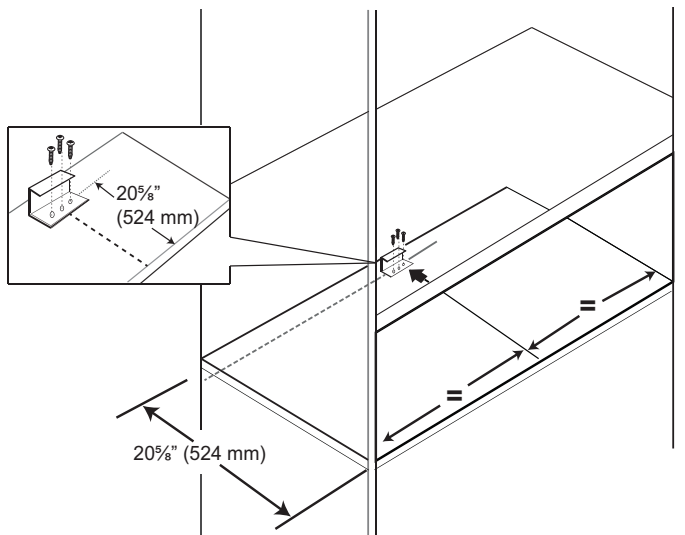

Figure 5: Anti-tip Bracket Location
3. Position the anti-tip bracket on the floor of cabinet opening $20\frac{5}{8}$ " (524 mm) from the cabinet edge and spaced equally centered for model type, as shown in Figure 5.
4. Secure with three (3) $\frac{3}{4}$ " (3.175 mm) Phillips head screws (included).